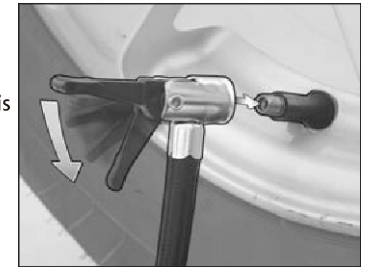

Figure 2
3. Attach the universal adapter (see Figure 2) from the inflator to the valve stem with the lever in the up position. Be sure to press universal adapter down over valve stem threads completely. When universal adapter is firmly in place, press locking lever down to lock onto valve stem.